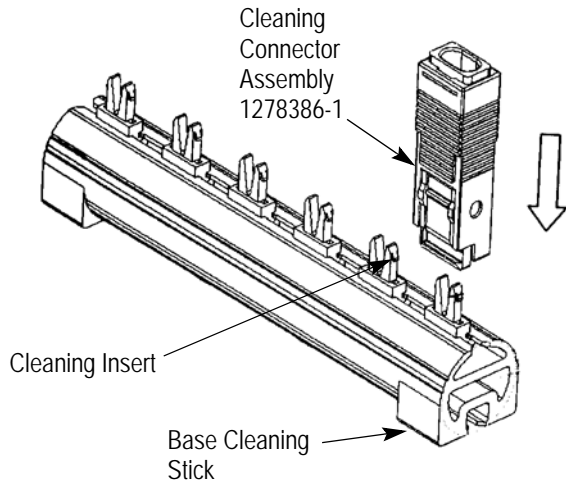

Figure 2
1. Push the cleaning connector assembly down over the insert (located on the base cleaning stick). See Figure 2.